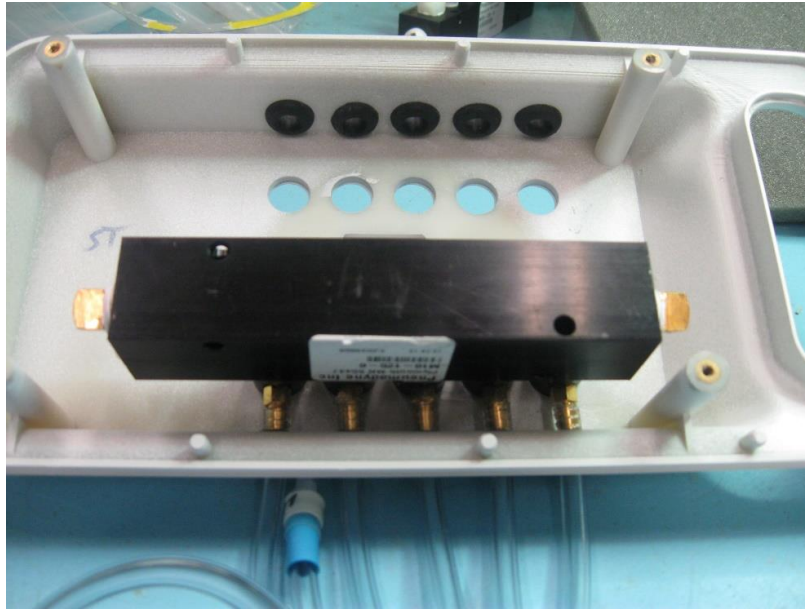

Figure 9
5. Work the Manifold Block Assembly with the Tubing into place until the toggles on the Toggle Valves protrude through the top of the case and the Manifold Block Assembly is sitting as flat as possible along the inside of the case as shown on Figure 9.